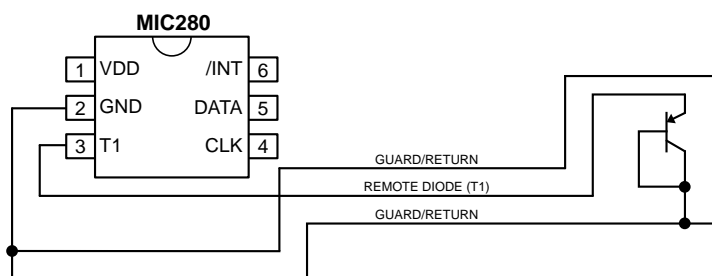

Figure 6. Guard Traces/Kelvin Ground Returns
2. Since any conductance from the various voltages on the PC Board and the T1 line can induce serious errors, it is good practice to guard the remote diode's emitter trace with a pair of ground traces. These ground traces should be returned to the MIC280's own ground pin. They should not be grounded at any other part of their run. However, it is highly desirable to use these guard traces to carry the diode's own ground return back to the ground pin of the MIC280, thereby providing a Kelvin connection for the base of the diode. See Figure 6.
and Kelvin return shown in Figure 6. The collector of the remote diode is typically inaccessible to the user on these devices. To allow for this, the MIC280 has superb rejection of noise appearing from collector to GND.